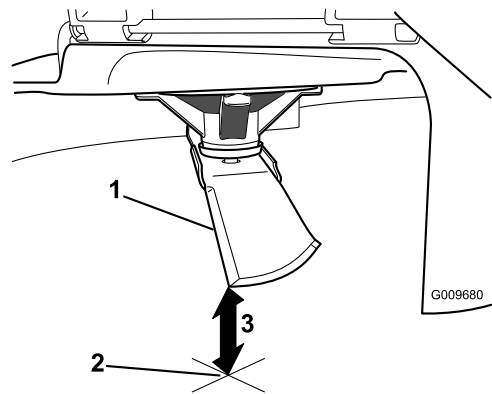

**Figure 50**
3. Measured distance between blade and the surface (A)
4. Rotate the same blade 180 degrees so that the opposing cutting edge is now in the same position (Figure 50).